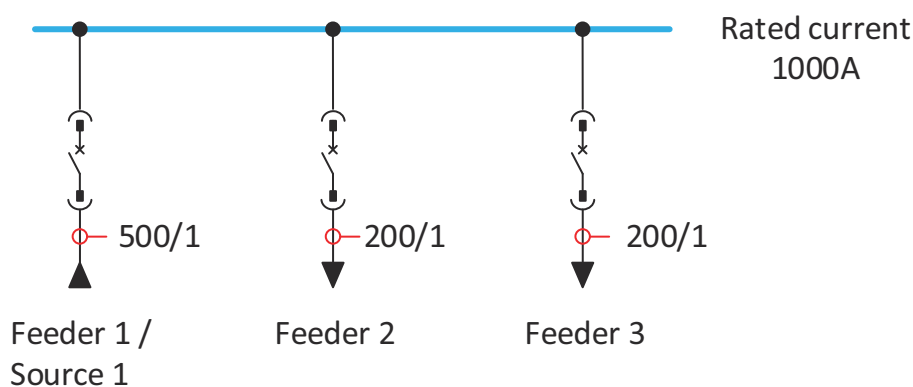

Figure 229: Example of CT ratio correction settings in simple substation
*CT ratio correction*-setting is used to scale all connected feeders to the same rated current level. Figure 229 shows a simple example of substation with one incoming feeder and two outgoing feeders. The busbar rated current is 1000A, so all connected feeders are scaled towards that value. *CT ratio correction* values are then following: